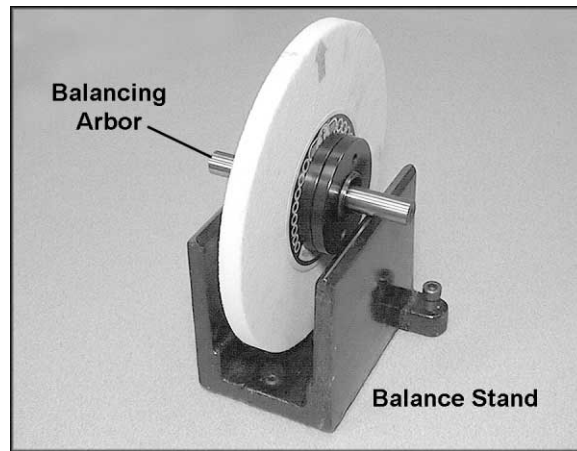
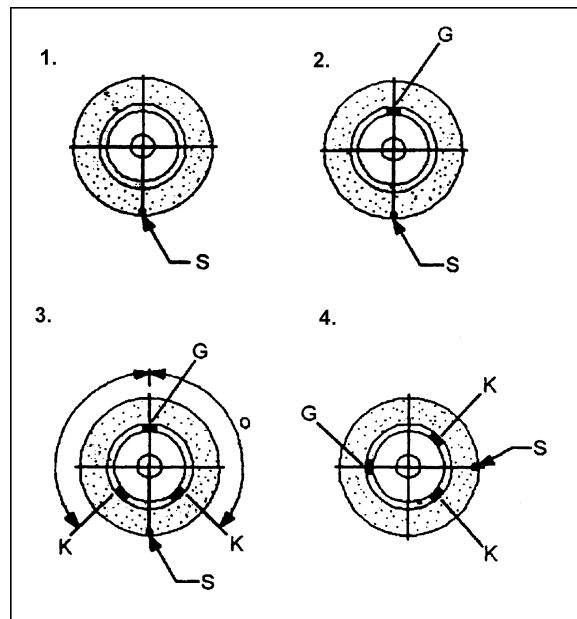

Figure 10
Figure 11
8. Place the wheel assembly on the balancing stand (Figure 10) and mark its gravity center "S" with chalk. See Figure 11.
9. Insert a balancing weight "G" directly opposite of gravity center "S" (Figure 11).
11. Insert two balancing weights "K" on the lighter side. If the wheel is still out of balance, adjust "K" for balance. See Figure 11.